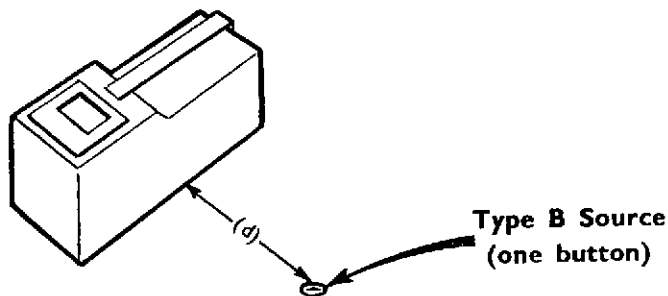

Fig. 4
(2) Position the instrument and a Radioactive Source Type B (one button) so that the source is directly in line with the centre of the blank side of the instrument, as shown in fig. 4.